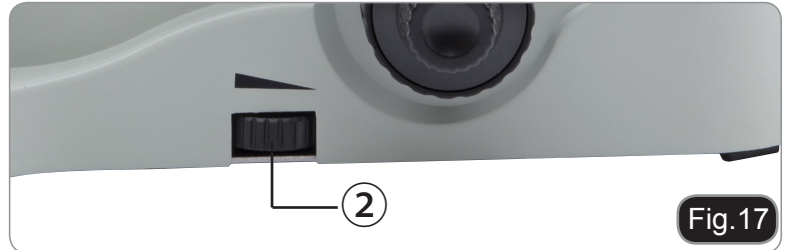

Fig.17
Turn the brightness adjustment knob ② to increase and decrease the brightness. (Fig.17)